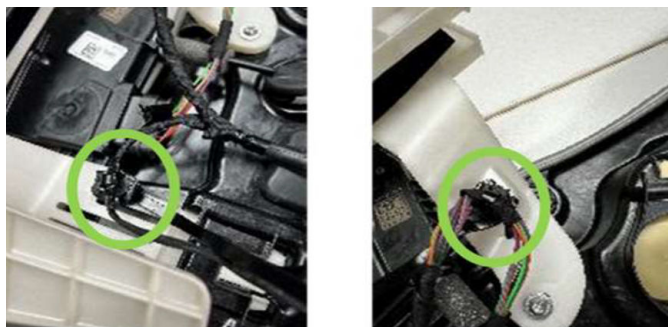

Fig. 8
10. Remove the two clips connected on each side of the latch Fig. 8.